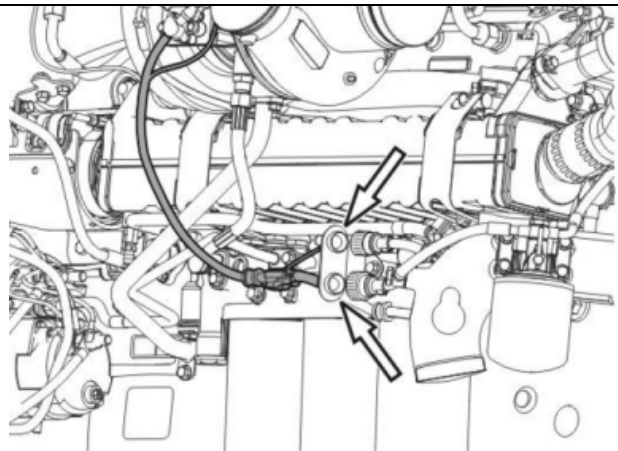

FIGURE 14
18. Connect the actuator electrical wiring harness connector to the engine wiring harness connector. Install tie straps as needed to secure the harness (FIGURE 14).